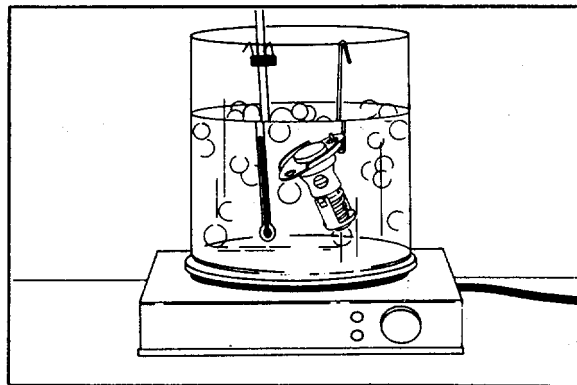

FIGURE 2-2. *Oil Cooler Bypass Valve Temperature Check.*
- d. Note the temperature at which the valve is fully extended. The valve must be fully extended to at least 2.770 inches (70.36 mm) when the temperature reaches 234°F (112°C) (FIGURE 2-2).